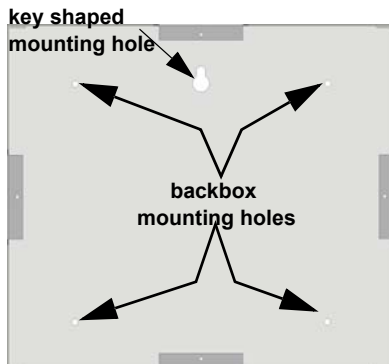

Figure 5 Backbox Surface Mounting Holes
2. To properly mount the backbox, insert a single screw into the key shaped mounting hole. Do not tighten all the way. See Figure 5.